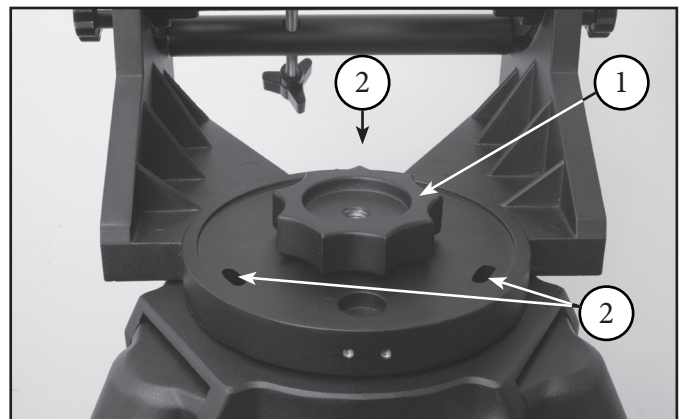

Fig. 3: Attach to Tripod
2. Thread the 3" diameter manual knob (1, Fig. 3) onto the tripod threaded rod and loosely tighten.
4. For extra stability thread the three supplied 5/16" button head screws and washers thru the slotted openings (2, Fig. 3) on the wedge floor and into the tripod head. Leave these loose for now.